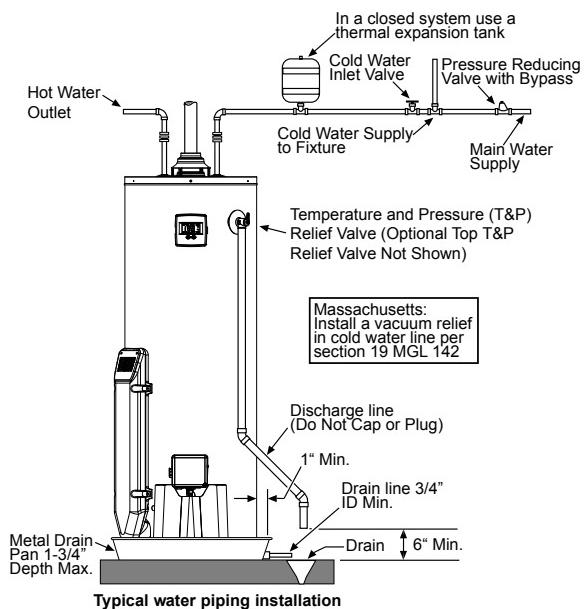

FIGURE 13.
Piping, fittings, and valves should be installed according to the installation drawing (Figure 13). If the indoor installation area is subject to freezing temperatures, the water piping must be protected by insulation.
1. Install the water piping and fittings as shown in Figure 13. Connect the cold water supply (3/4" NPT) to the cold water inlet fitting. Connect the hot water piping (3/4" NPT) to the hot water outlet fitting.